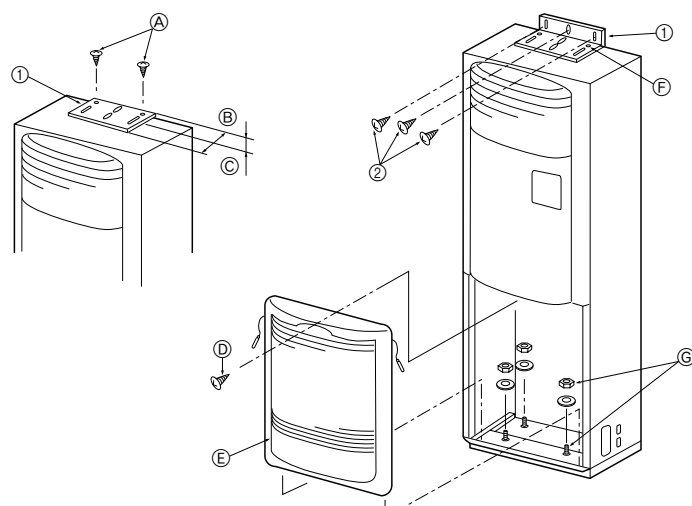

Fig. 3-2
3.2. Tip-over prevention bracket (Fig. 3-2)